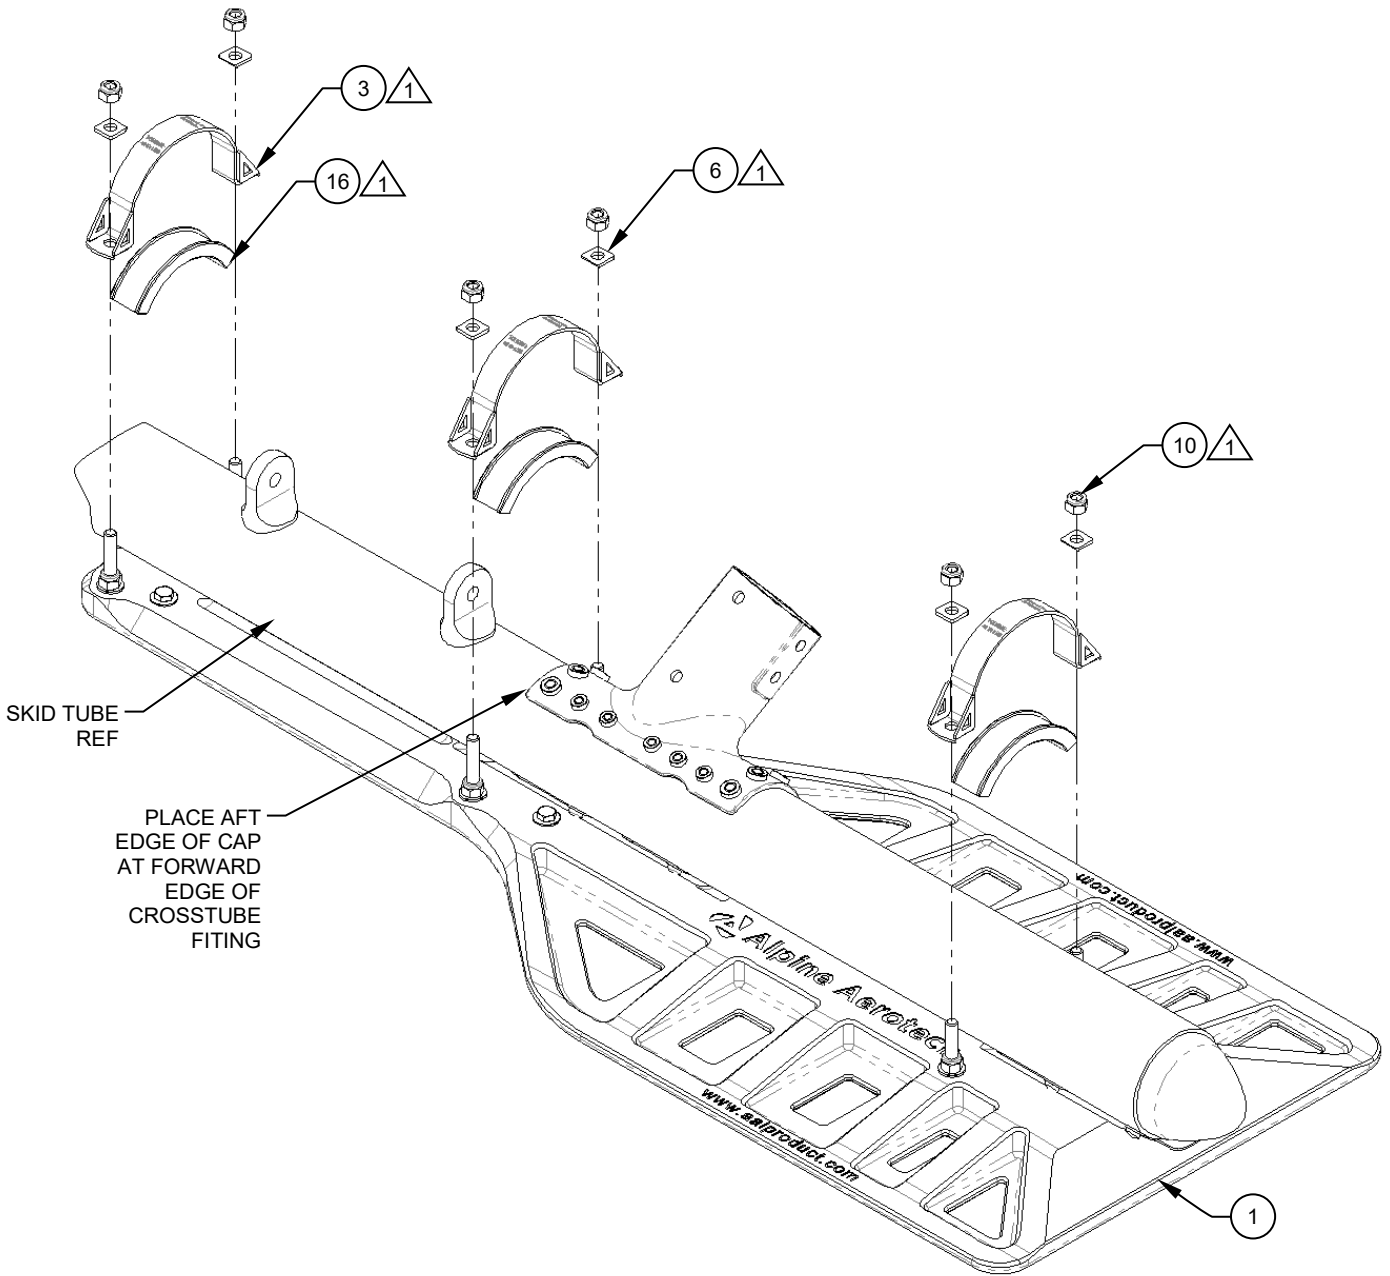

Figure 5
1. Raise the aircraft so the Bear Paw, Detail (Item 1) can be slide under the skid tube. Reference Figure 5.
2. Once the Bear Paw, Detail (Item 1) is under the skid tube in its approximate location, place the Strap, Assys (Item 3) and their respective Cap, Details (Item 16) on their corresponding bolts. Reference Figure 5.
3. Install the supplied Washer (Item 6) and Nut (Item 10) on each bolt. Reference Figure 5.